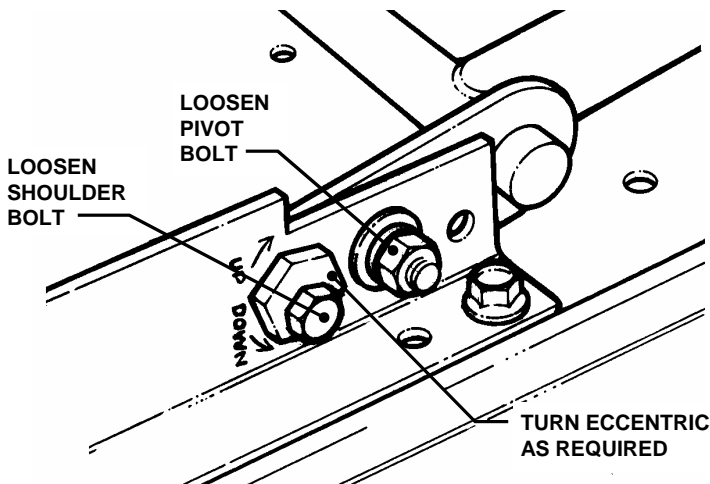

FIGURE 4.3
- Turn eccentric "UP" or "DOWN" as required until blade tips are within 1/8" of the same distance from the floor. See Figure 4.3.